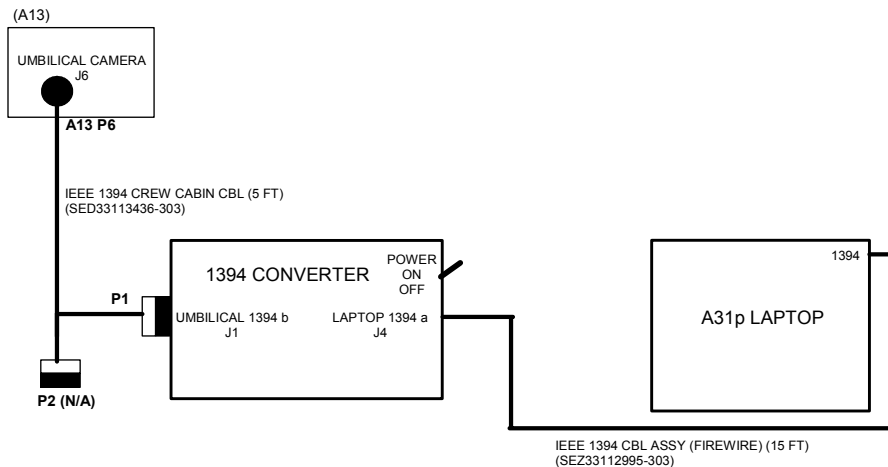

Figure 12-12.- Hardware configuration.
4. Configure hardware per figure 12-12 below making Firewire cable connection to laptop last: